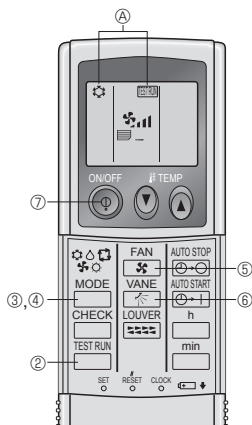

Fig. 7-5
7.2.2. Using wireless remote controller (Fig. 7-5)
① Turn on the power to the unit at least 12 hours before the test run.
② Press the ^{TEST RUN} button twice continuously.